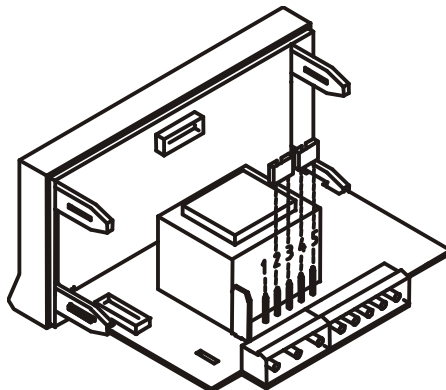

Fig. 9.2. Jumper settings for 230 V or 48 V AC
**115/ 230 V AC:** The instruments with 115/230 V AC power are set up at fabrication for 230 V AC (**USA market 115 V AC**), see figure 9.2. To change power supply configuration to 115 V AC, make the jumpers indicated in figure 9.3 and table 1. The wiring label should be modified to match the new configuration.
**24/ 48 V AC:** The instruments with 24/48 V AC power are set up at fabrication for 24 V AC, see figure 9.2. To change power supply configuration to 48 V AC, make the jumpers indicated in figure 9.3 and table 1. The wiring label should be modified to match the new configuration.